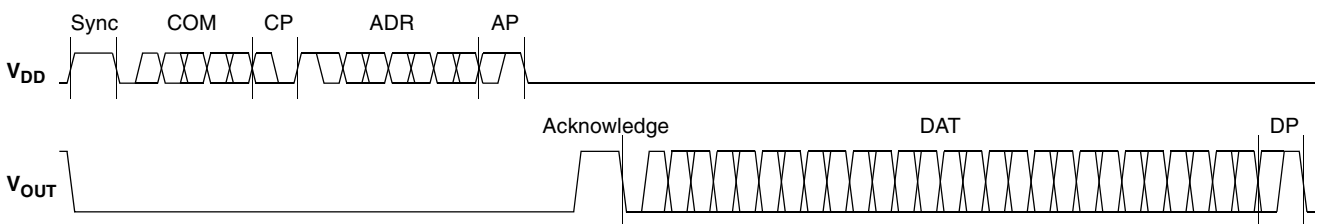

Fig. 5-3: Telegram for coding a Read command
- Read a register (see Fig. 5-3 on page 28)